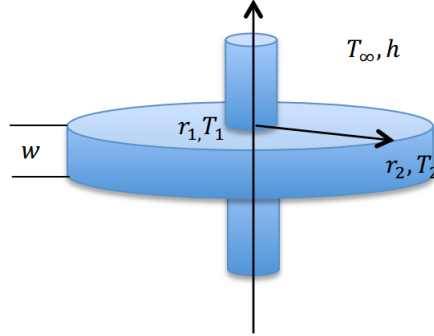

Figure 2.13: Cylindrical fin 2.4.2
**Example 2.4.2 Non constant cross sectional problem** *Refer to tutorial 2-4-1 and 2-4-2 Fin Solutions.nb.* A cylindrical fin with has constant heat conductivity  $k = 3W/m.K$ , width is  $W = 0.01m$ . The surface of the fin is exposed to ambient air at  $10^\circ C$  with a convection heat transfer coefficient  $h = 10W/m^2K$ . Plot the temperature distribution in the fin under prescribed tip condition, At start position  $r_1 = 0.01m$ , temperature is  $T_1 = 30^\circ C$ . at the end  $r_2 = 0.04m$ , temperature  $T_2 = 40^\circ C$ . (Shown in figure 2.13)